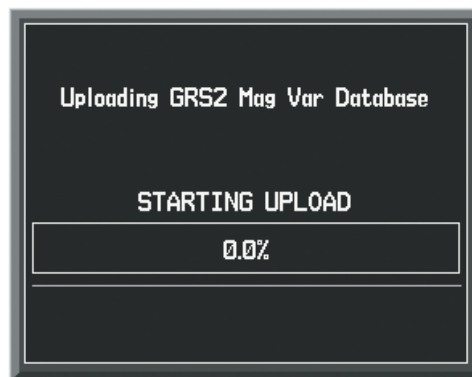

Figure B-16 Uploading Database to GRS2
- 4) With 'OK' highlighted, press the **ENT** Key on the MFD. A progress monitor is displayed as shown in Figure B-16. When the upload is complete, the system is ready for use.